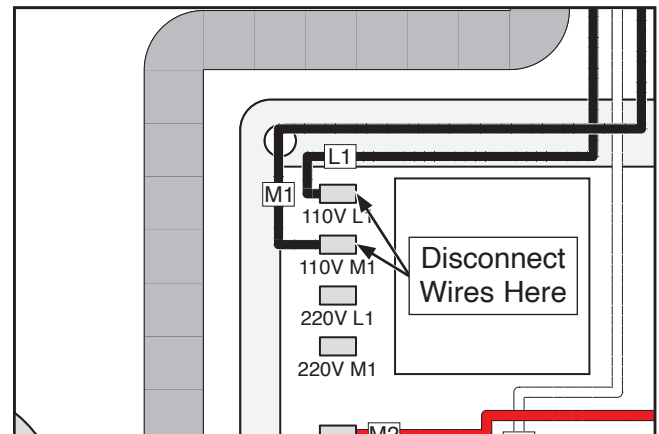
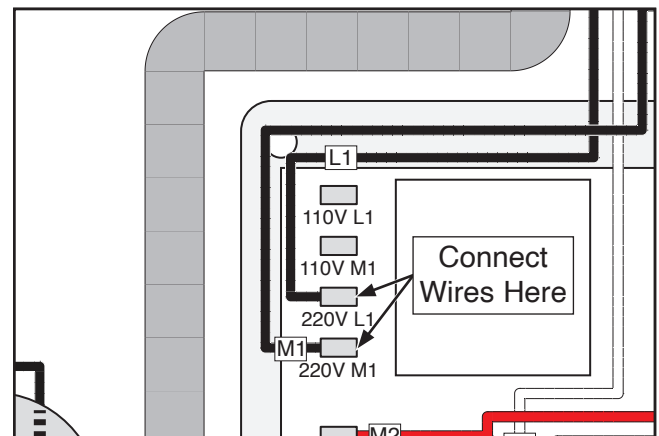

Figure 8. Circuit board incoming power wire terminals (110V).
Figure 9. Circuit board incoming power wire terminals (220V).
5. Remove (6) screws to remove control panel, then move wires from L1 and M1 110V terminals (see **Figure 8**) to L1 and M1 220V terminals, as shown in **Figure 9**.